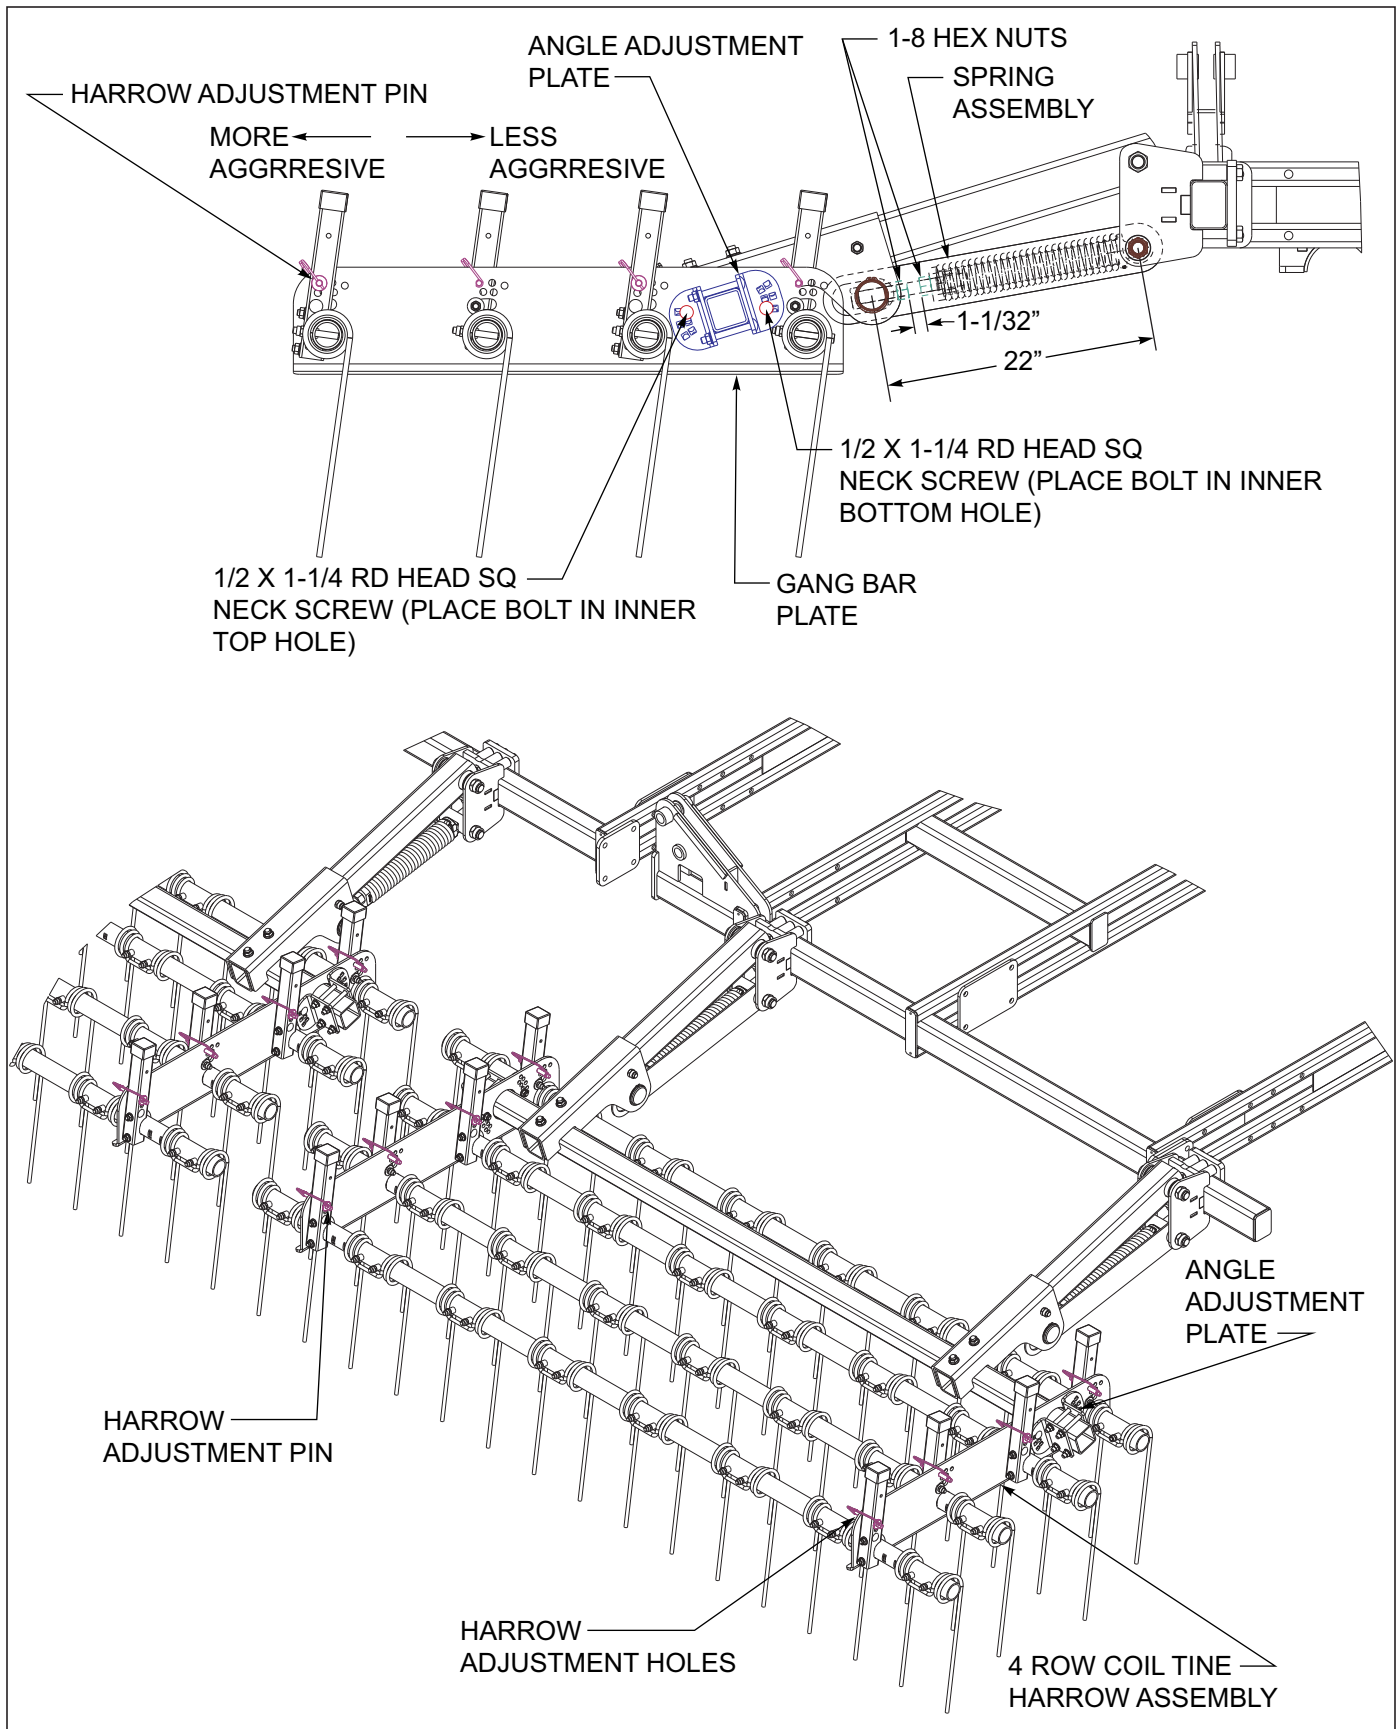

Figure 4-15: 4 Row Coil Tine Adjustment
2. In general tine harrows have better capabilities for handling more residue and wetter conditions. When operating the coil tine harrow, a more vertical tine tooth angle will make the harrow more aggressive. A lower/flatter tine angle will make the harrow less aggressive but will handle more residue and wetter conditions. To change the tine angle, raise the harrow off the ground. Remove the harrow pin from both angle adjustment tubes per tine gang bar tube See Figure 4-15. Rotate the angle adjustment tubes forward (less aggressive) or rearward (more aggressive) and reinstall both spring clip pins. Repeat the tine adjustment for each tine gangbar tube and harrow section.
3. The initial setting for the spring assembly should be 22". Each harrow section may also be adjusted for operating height. To change the harrow height See Figure 4-15, loosen both 1-8 hex nuts. Raise or lower the harrow arm by turning the bolt head for the spring adjustment bolt. Then re-tighten the 1-8 hex nuts. When initially setting the harrow height, the bottom tips of the tine tooth (pulled back at the desired tooth angle) should be approximately level with the field cultivator sweeps.